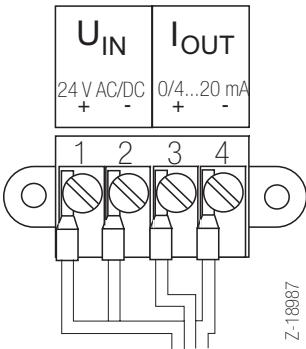

Fig. 5-2
1 ... 4 Terminals Fig. 5-2
3. Connect the four wires to the terminal of the detector electronic unit (see Fig. 5-2).